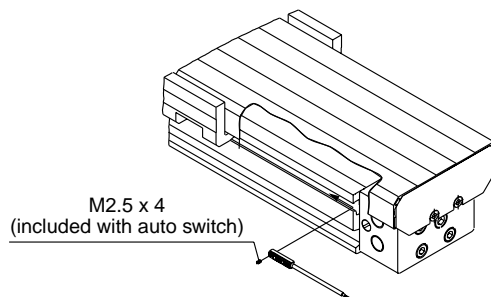

Figure 2. Auto switch mounting
1. Insert and slide in the auto switch from the side of the cylinder and secure it with the screw provided. (Refer to Figure 2.)